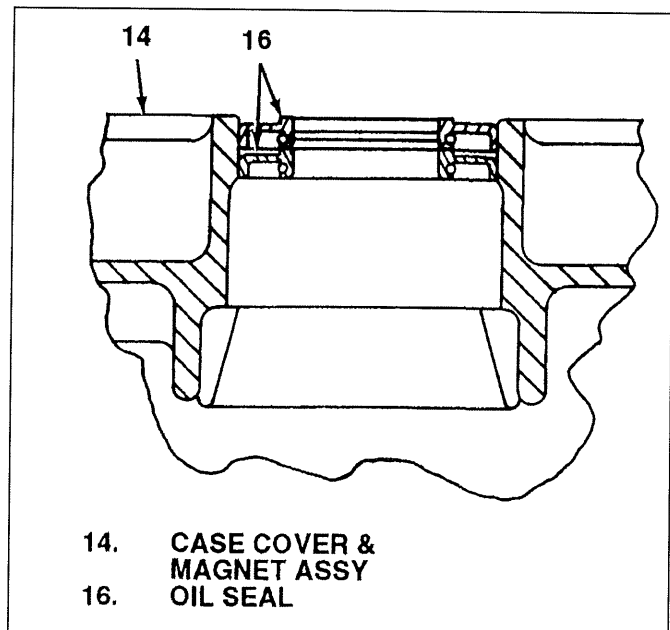

Figure 5-19: Input Shaft Oil Seals
1. If removed, press in new bearing cups (12 and/or 13) to bottom in case cover and magnet assembly (14).
2. Position two new oil seals (16) as shown in figure 5-19 and press into case cover and magnet assembly (14) so that outside face of outside oil seal is flush with outside face of cover. Fill cavity between oil seals with grease.
3. Position transmission assembly with pump end down and position gasket (15) on face of case (46). A